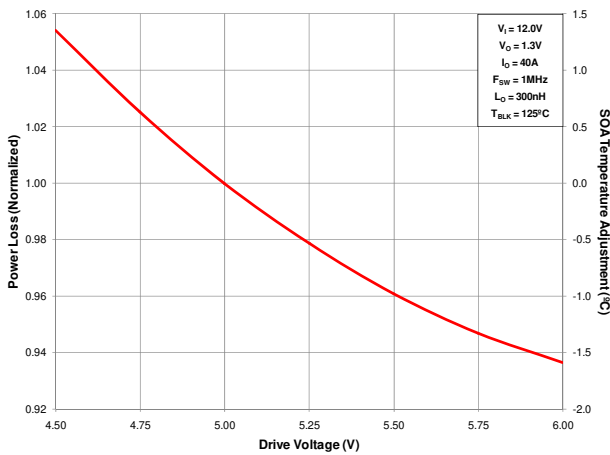

Figure 5 Normalized Power Loss versus Drive Voltage
| (Figure 5) | Normalized power loss for drive voltage (V_{DD}) \approx 0.96 |
- (Figure 5) SOA temperature adjustment for drive voltage (V_{DD}) $\approx -0.8^{\circ}\text{C}$